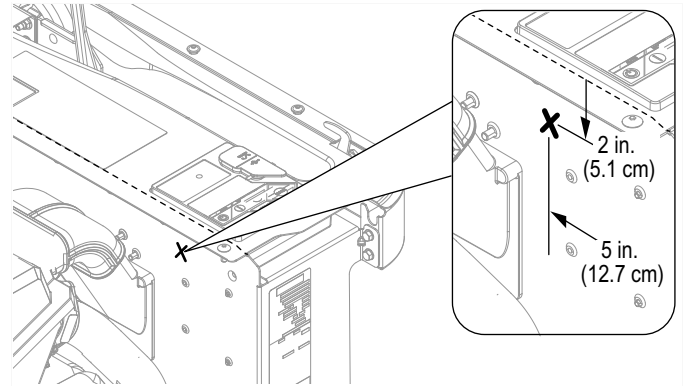

Figure 6 - Prepare Divider Panel
1. See Figure 6. Measure 2 in. (5.1 cm) down from underside of flange at top of divider panel. Measure 5 in. (12.7 cm) inward from front face of divider panel. Mark an X at this location. This will be the center point for the switch mounting hole.